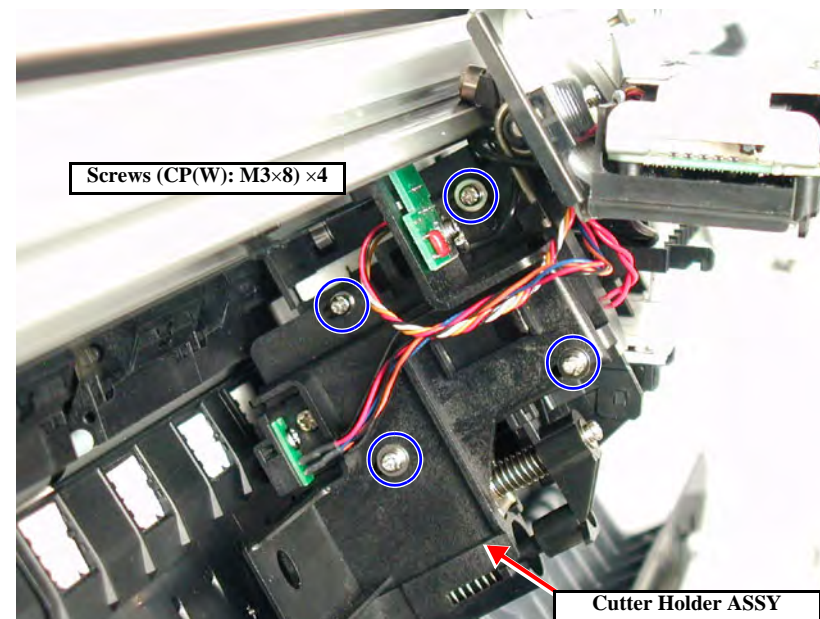

Figure 4-33. Removing the Cutter Housing
8. Remove the four screws (CP(W): M3×8) securing the Cutter Holder, and while paying attention to the connector harness connected to the CR Board, remove the Cutter Holder ASSY from the carriage. (See Figure 4-33)